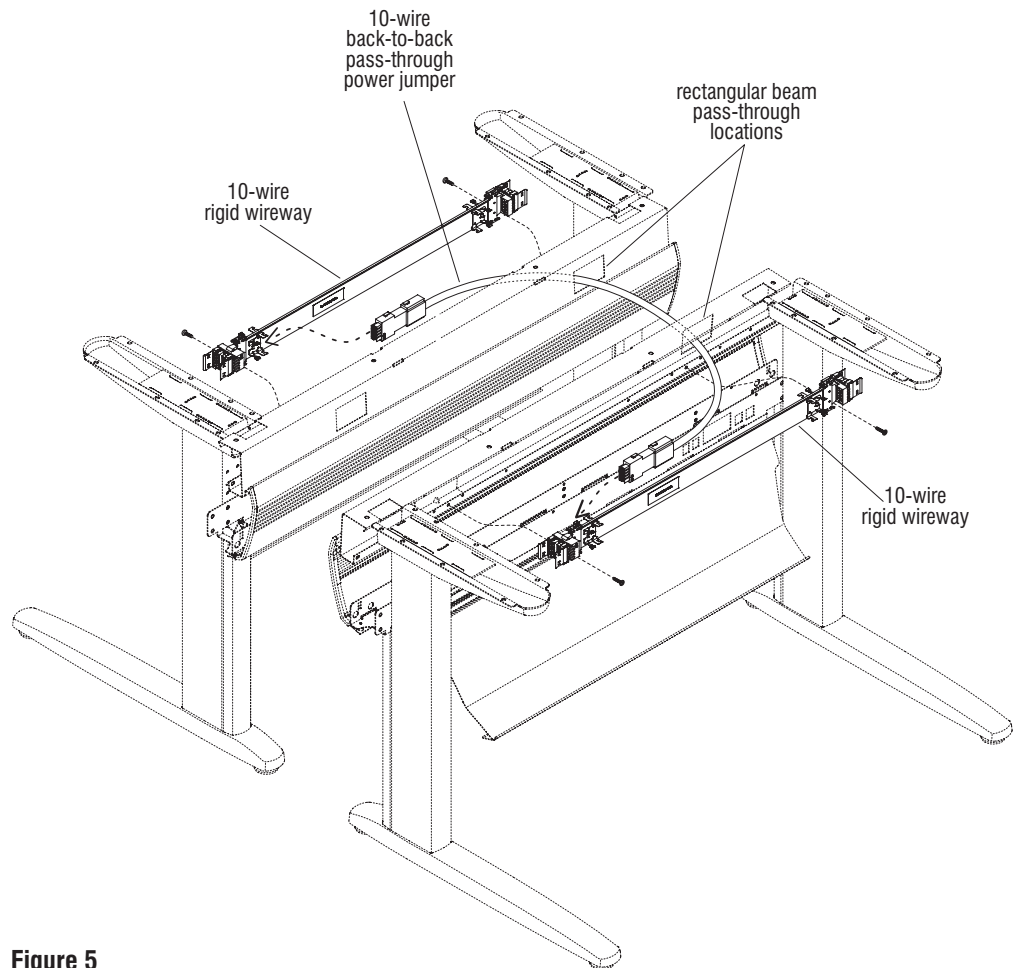

Figure 5
Note: Figure 5 illustrates how to install 10-wire back-to-back pass-through power jumpers on back-to-back table configurations. To help show how the 10-wire jumper is routed, the table in the illustration is slightly separated, however your table will be ganged together at this time.
2. Remove 10-wire rigid wireways from each table unit temporarily, so 10-wire back-to-back pass-through jumper may be installed. As illustrated, route either end of the back-to-back jumper through the power pass-through locations at the back of each rectangular beam. Route the jumper along the length of the beam and snap it into the 10-wire rigid wireway. Secure connector ends to each 10-wire rigid wireway by inserting until spring clips lock connector into place at each 10-wire rigid wireway receiver ends (Figure 5).